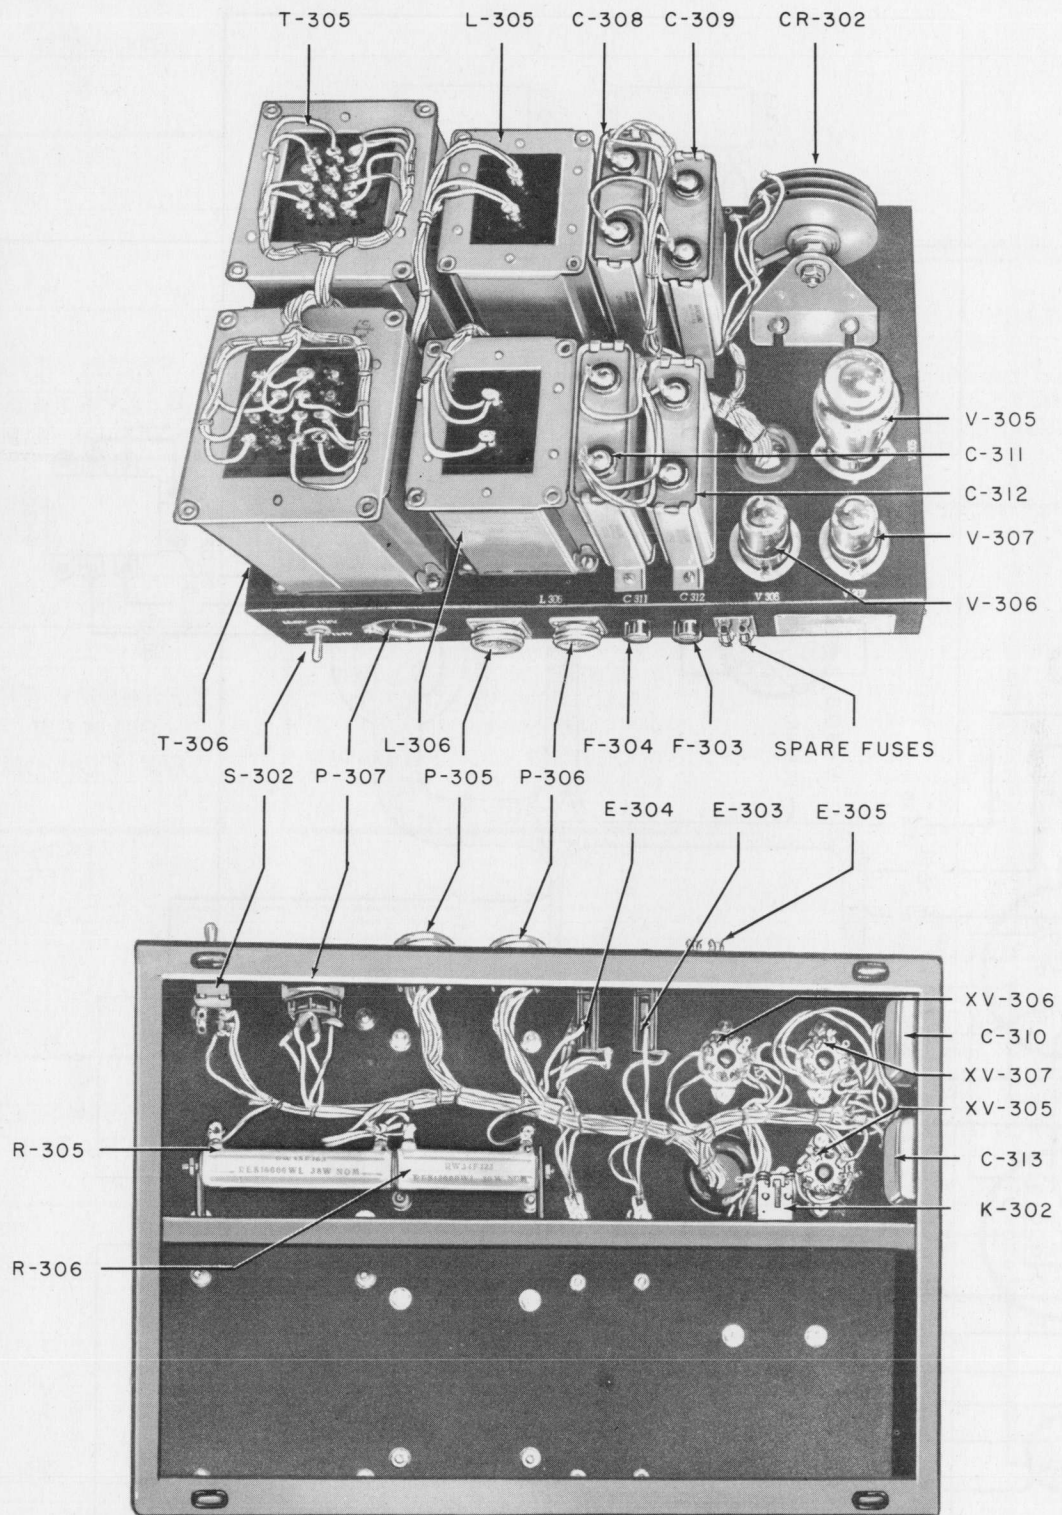

Figure 4-2. Power Supply PP-380/U, Parts Identification
(See Figures 4-2 through 4-6.)
c. SPECIFIC REPAIR PROCEDURES.—Because of the simplicity of PP-380/U construction, step-by-step replacement procedures are not required for its component parts. Figures 4-2 through 4-6 and Table 4-1 contain the data required for repair of the equipment, and the tables in Section 5, Parts Lists, supplement that data.